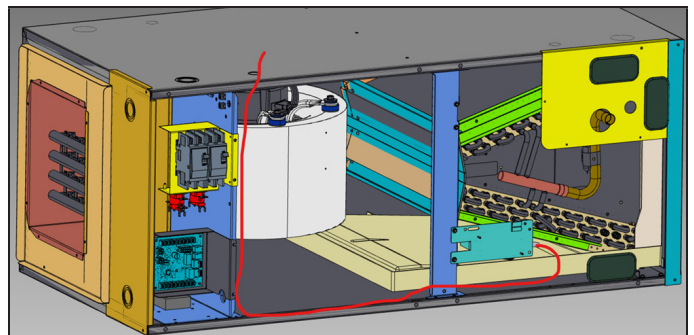

FIGURE 16
- 9 - Open the low voltage hole knockout and route the sensor cable through opening (figure 16).